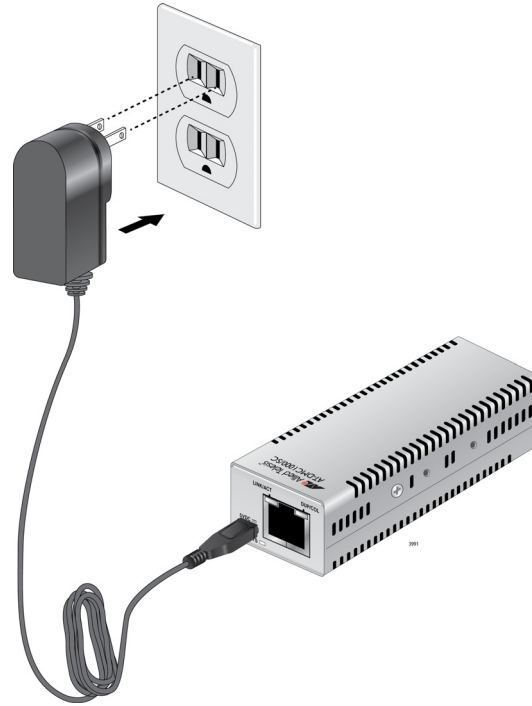

Figure 23. Connecting Power via Power Adapter
- Attach the other end of the USB cable to the USB port on the power adapter, then plug the power adapter to a power outlet, as shown in Figure 23 on page 45. Refer to “Power Specifications” on page 54 for power requirements.